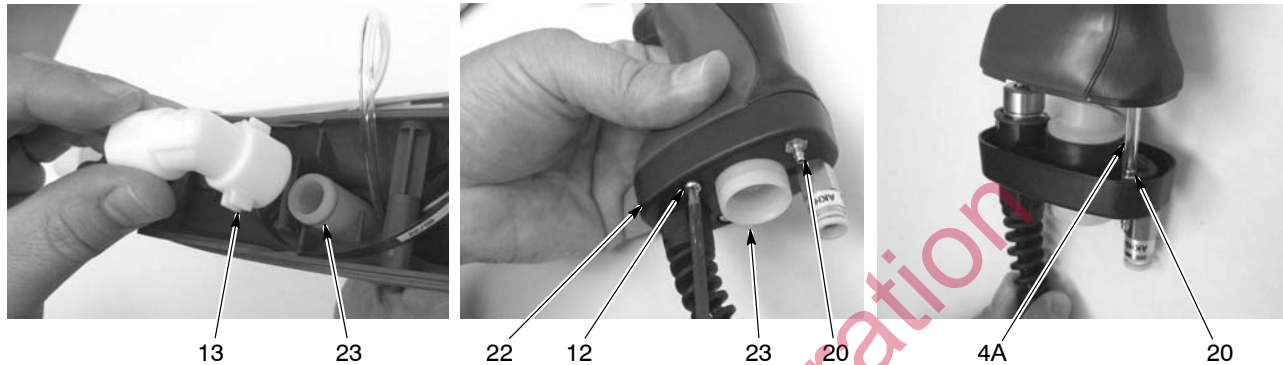

Figure 5-6 Removing the Elbow and Separating the Base from the Handle
7. See Figure 5-6. Remove the elbow (13) from the inlet tube (23).
8. Remove the two M3 x 20 screws (12) securing the handle base (22) to the handle assembly.
10. Pull the clear 4-mm tubing (4A, part of filter assembly) off the barbed fitting (20).